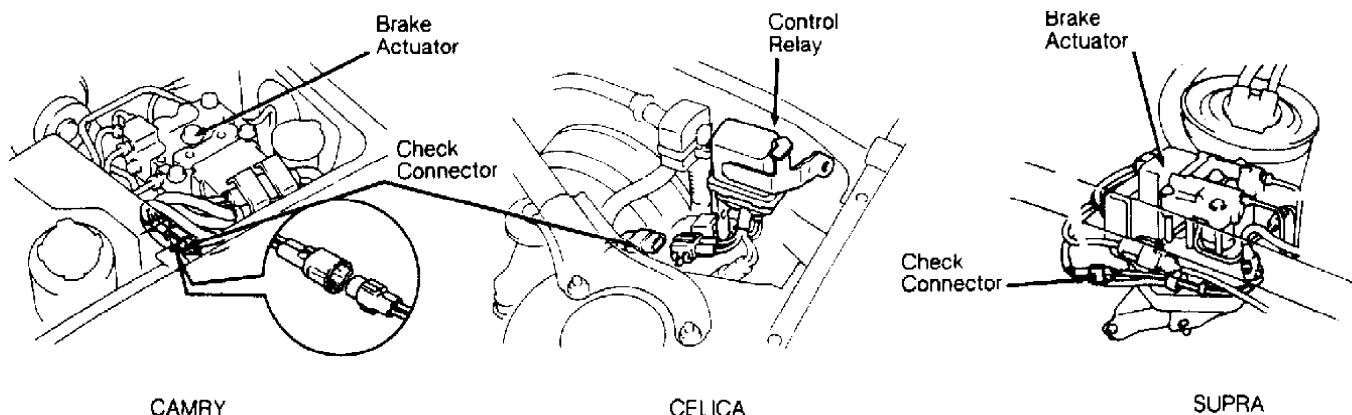

Fig. 1: Actuator Check Connector Location on Brake Actuator
2) Turn ignition switch to "ON" position. On Celica models (except All-Trac), remove control relay bolt and control relay. On Camry, Camry All-Trac, Celica All-Trac, Cressida and Supra, disconnect actuator check connector. Actuator check connector is located near brake actuator in rear of vehicle on Celica All-Trac models. On Celica models (except All-Trac), disconnect check connector from control relay. See Fig. 1.
3) On Camry, disconnect actuator check connector. On Celica, remove control relay bolt. Remove control relay. Disconnect check connector from control relay. See Fig. 1. On Cressida, connect a jumper wire between terminals No. E1 and Tc of the diagnostic communication link. See Fig. 2.